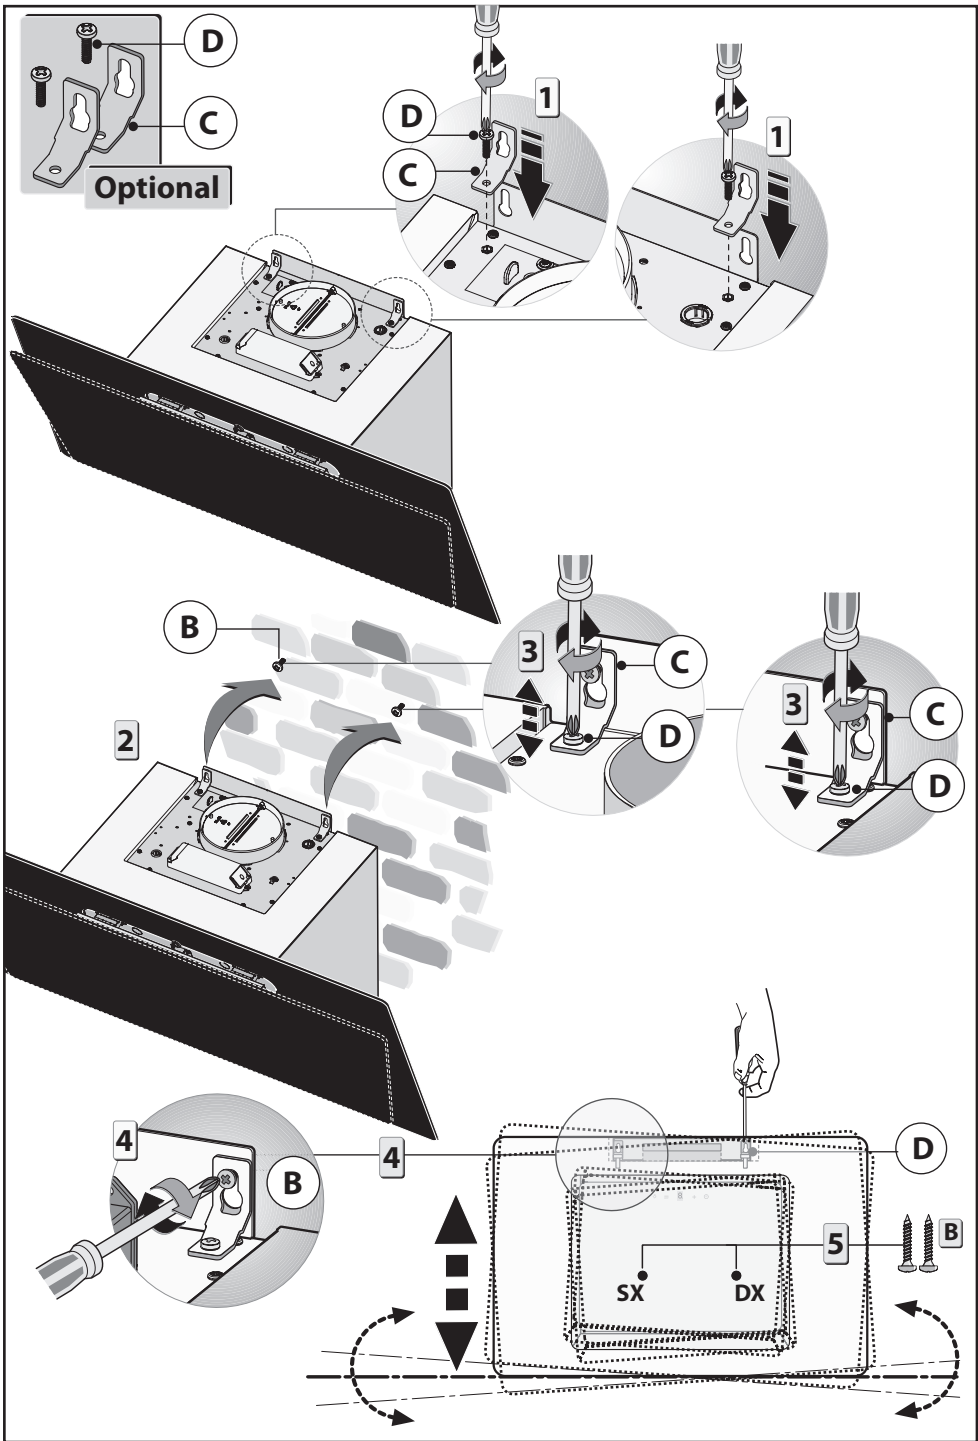

Fig.4
#### • Fixing to the wall OPTIONAL ACCESSORIES (Fig.4):
- Take the two levelling brackets **C** and fix them to the hood support with the screws **D** as indicated in figure 4 - step 1. Do not tighten the 2 levelling screws **D**.
- Take the appliance and hang it on the two screws **B** figure 4 - step 2.
- Align the appliance horizontally by adjusting the two levelling screws **D** figure 4 - step 3.
- When you have finished the adjustment, tighten the 2 screws **B** figure 4 - step 4 and mount the hood on the wall permanently using the two safety screws **B** figure 4 - step 5.